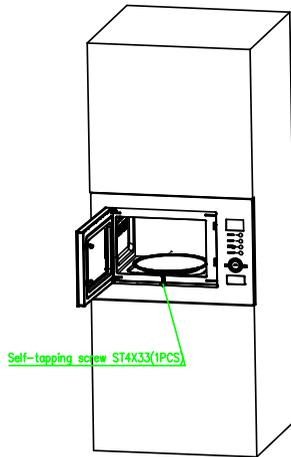

Fig.5
e) Open the door, then fix it with screws, as shown in Fig 5.
Opening size (W*H*D):378*600*550(mm) as shown in Fig.5 "E", "D", "F".